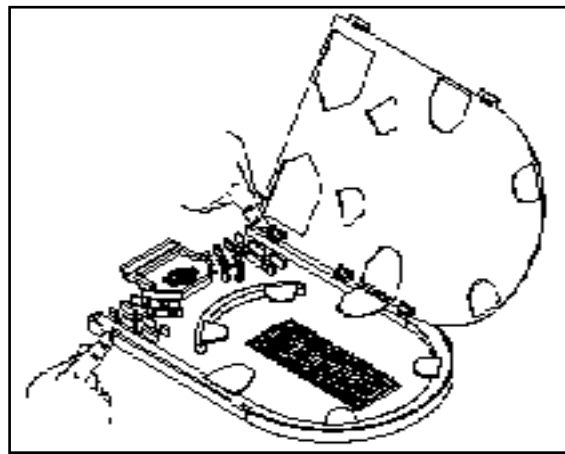

FIGURE 24 - REMOVE SPLICE TRAY COVER
12.02 Open cover of splice tray. Note that the cover is hinged on the right side and has two locking points on the left-hand side. (Figure 24)